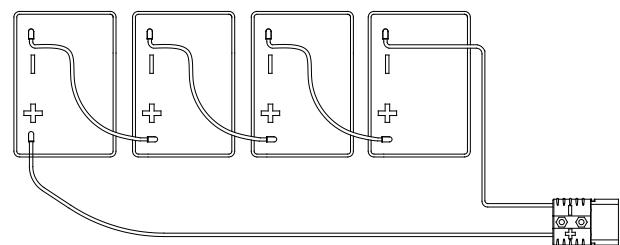

Figure 56
3. The machine is equipped with battery cables suitable for installing 4 x 6V batteries. Carefully put the batteries into the compartment, then install the battery cable as Figure 56, tighten the nut on each battery terminal carefully.